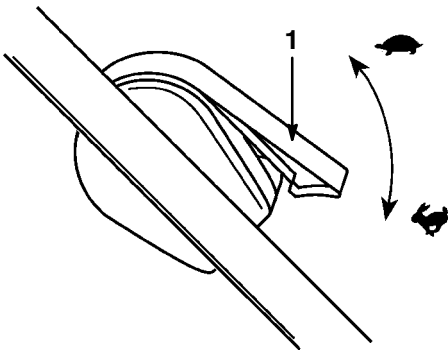

Figure 11
1. Move the throttle lever to the  (*Fast*) position (Fig. 11).
1. Move the throttle lever to the  (*Slow*) position (Fig. 11).